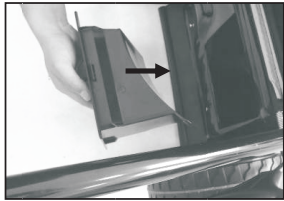
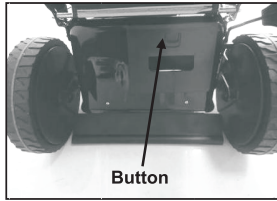

Fig.6A
Fig.6B
2. Push the mulching wedge into the deck. Lock the mulching wedge with the button into the opening on the deck. (Fig.6A/Fig.6B)